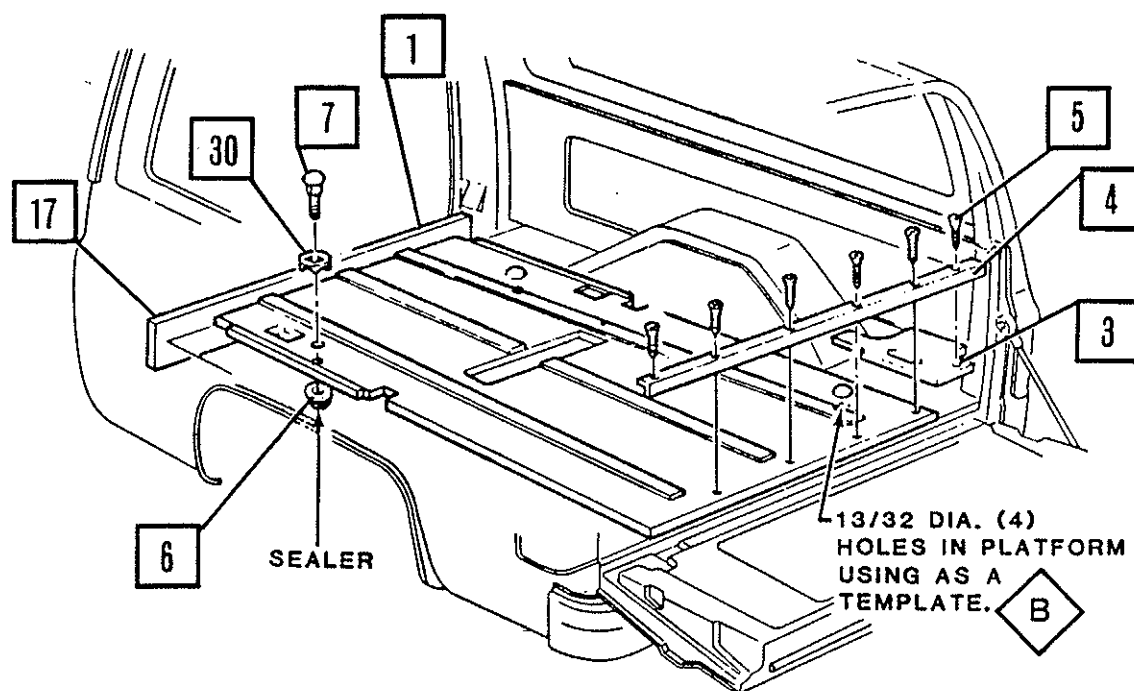

Figure 4.
12. Center rear sill molding on floor insulators using rear sill molding as a template. Drill  $\frac{3}{32}$  inch holes and secure rear sill molding in place with wood screws (Figure 4.).
13. Close tailgate, drill four  $\frac{13}{32}$  inch holes in cargo floor using insulator as template (Figure 4.).
14. Install bolt and washer in floor panel center assembly in drilled holes (Figure 4.).
15. Apply sealer around bolt, then install nut. Tighten to 15-22 lb.-ft. (20.0-30.0 Nm) (Figure 4.).
16. Remove screws from plastic molding at front of cargo area and remove plastic molding (Figure 4.).